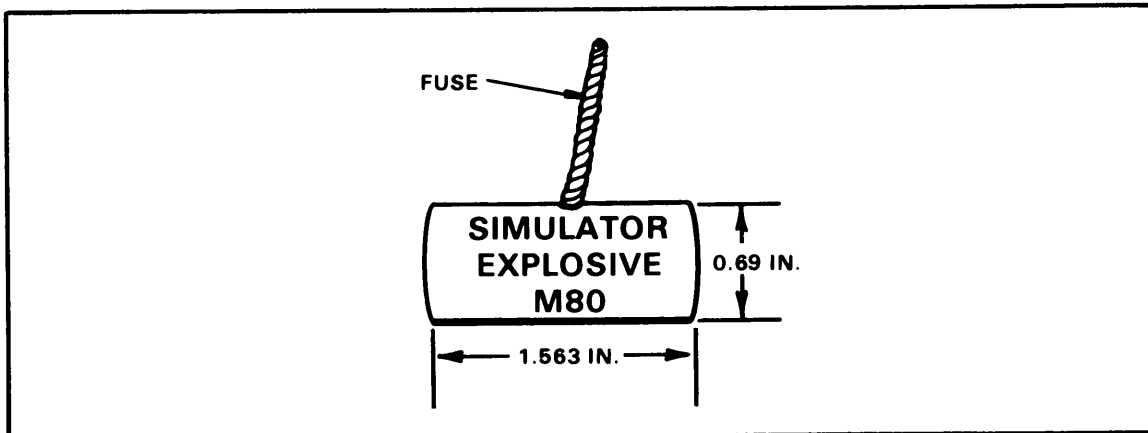

Figure 5-7. M80 simulator.
d. The explosive simulator M80 (Figure 5-7) is used during training to depict booby traps and land mines, and also in deactivation training programs. It is used to simulate hand grenades, booby traps, land mines, and rifle or artillery fire.